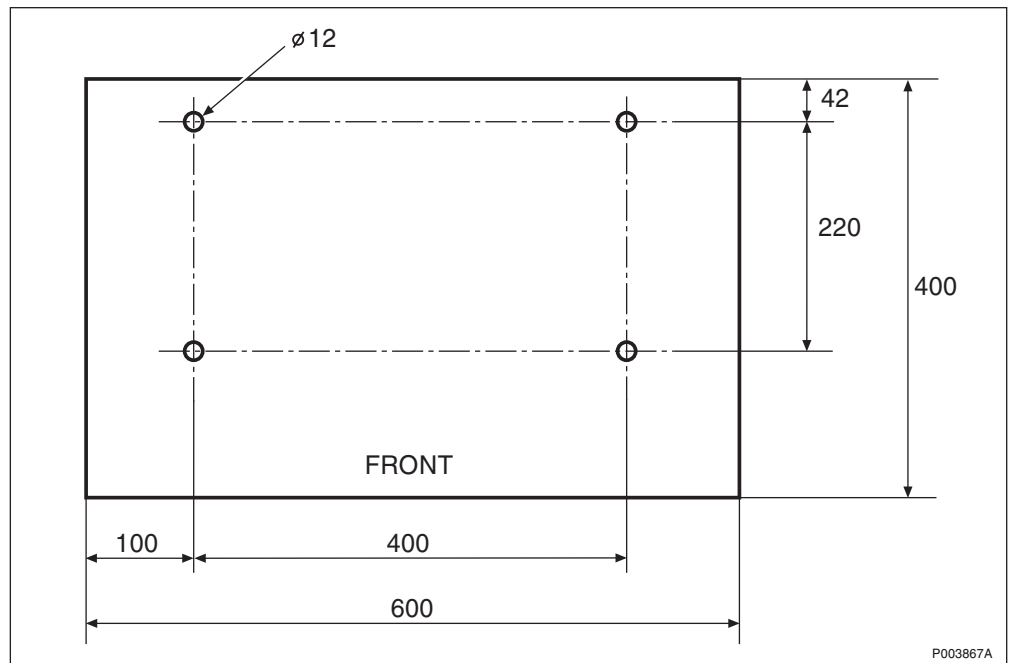
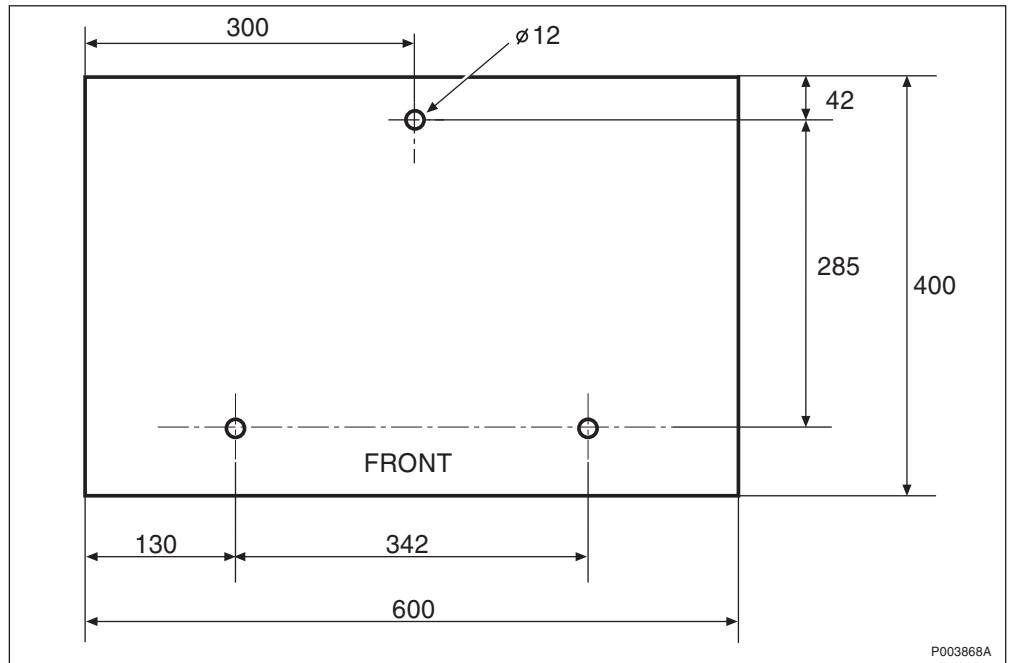

Figure 2 Drill template drawing, 4-hole version
Figure 3 Drill template drawing, 3-hole version
1. Make a drill template according to figure 2 or figure 3 below.